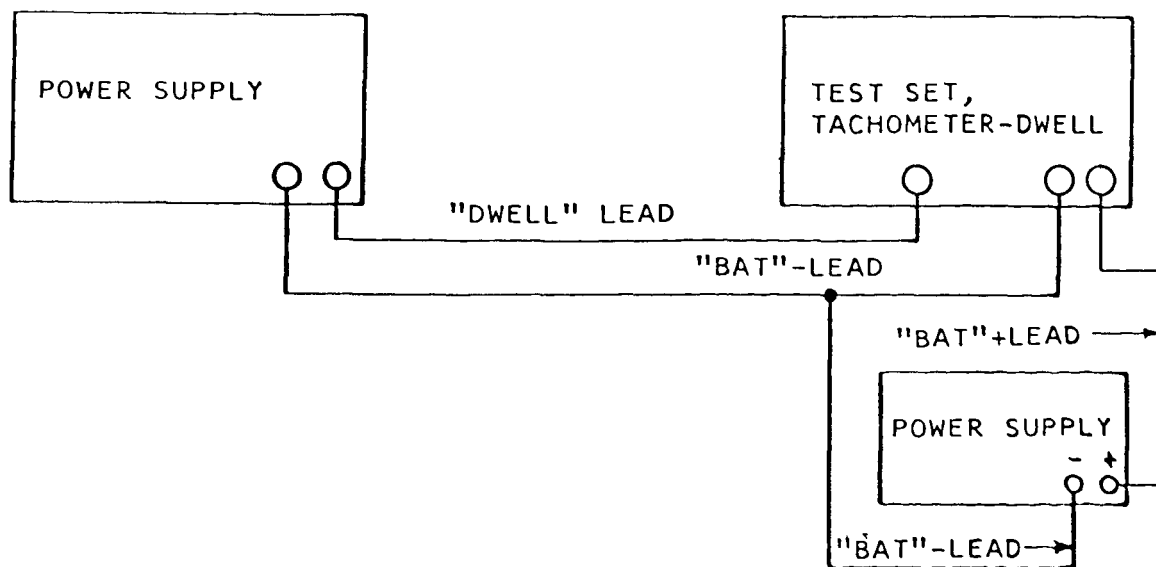

FIGURE. 6-1
- 1) Connect equipment per figure 6-1.